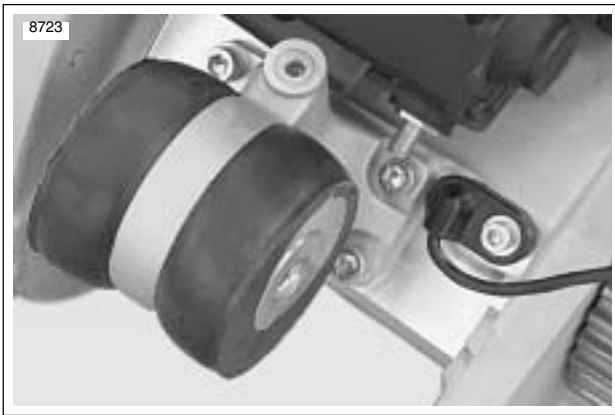

Figure 3-31. Rear Isolator and Mounting Hardware
39. See Figure 3-31. If the crankcases are being separated it will be necessary to remove rear isolator assembly by removing the forward two fasteners first and then the two rear fasteners (re-install with **new** fasteners).